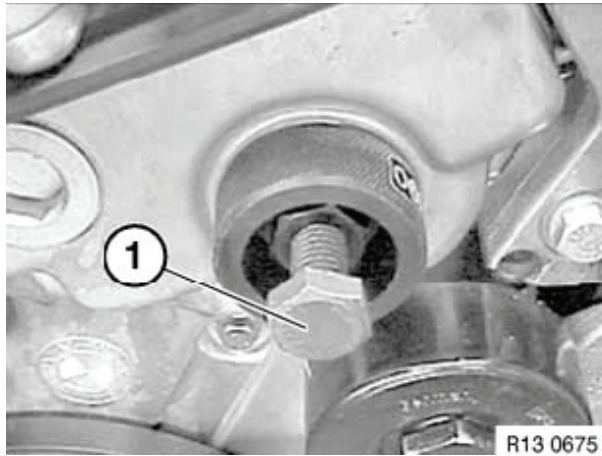

Figure 6-28
15. Tighten jack screw (**Figure 6-28, (1)**) until high-pressure pump is released from sprocket. Remove high-pressure pump from engine.